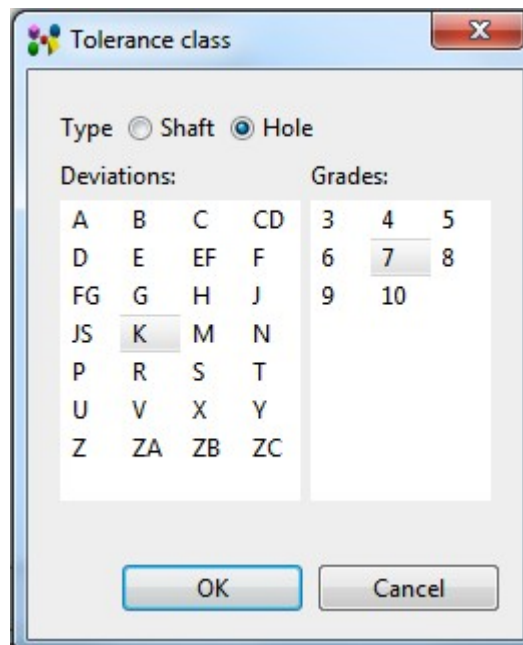

Figure 7. Tolerance Class dialogue window to select tolerance class for dimension
- Press the  icon button next to the text field. The **Tolerance Class** dialogue window appears on the screen (see Figure 7):